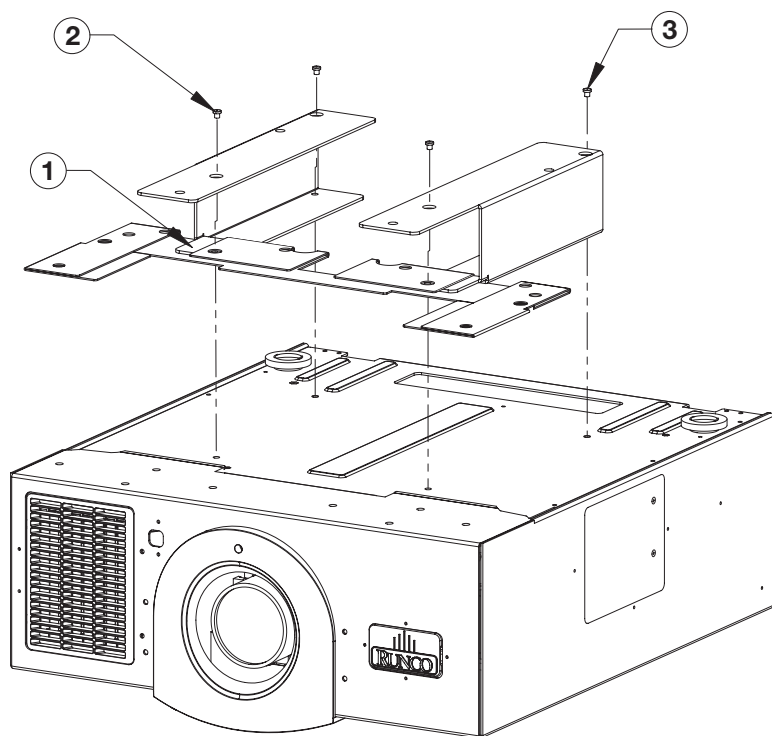

Figure 3-7. CL-810 Ultra with Lens Motor Mounting Plate and Ceiling Mount Adapters/Projector Stands
1. Assemble the AutoScope lens motor mounting plate (item #7) and ceiling mount adapter/projector stands (items #3 and #4) as shown in Figure 3-7. Note that the “tongue” at the front of each adapter/stand fits **under** the metal folds on the lens motor mounting plate.
2. Using the supplied, M6 x 16mm flat-head Phillips screws (item #1), attach the AutoScope lens motor mounting plate (item #7) and ceiling mount adapter/projector stands (items #3 and #4) to the projector as shown in Figure 3-7.